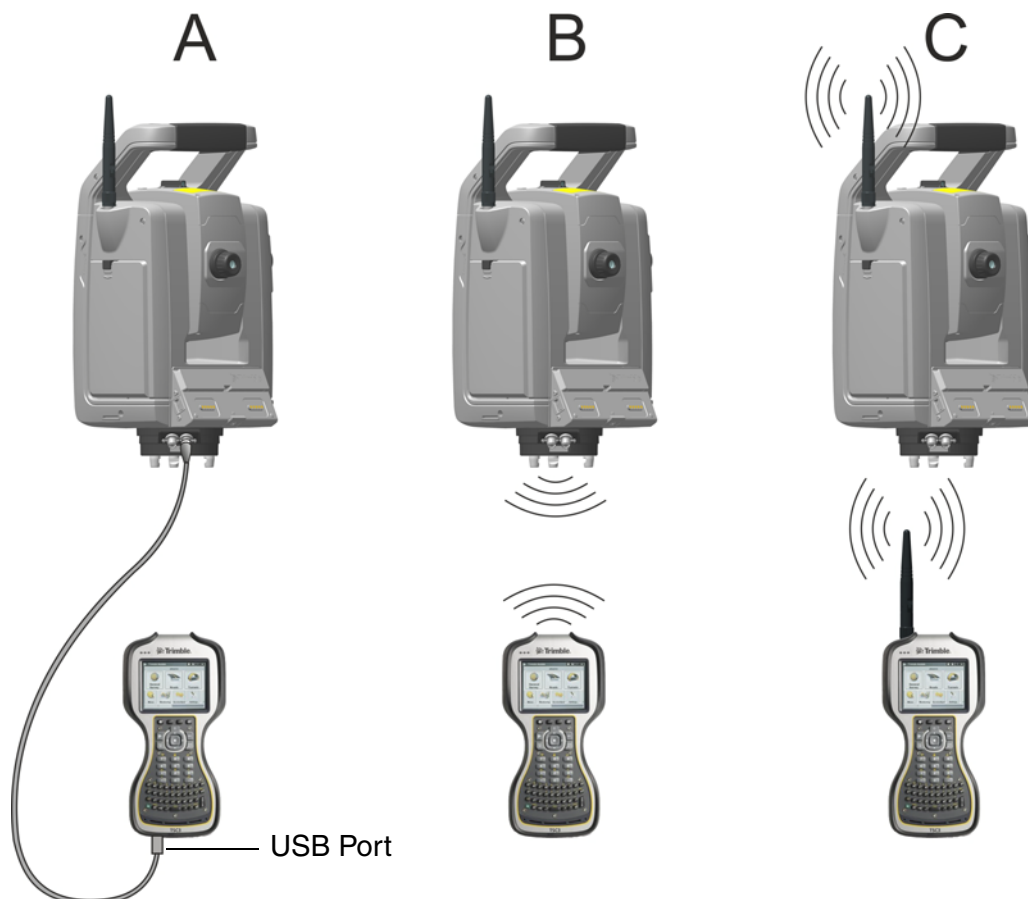

Figure 4.16 Connecting the TSC3 to the instrument
- In the TSC3 field software when the TSC3 is connected to the instrument with a cable, *see Figure 4.16*